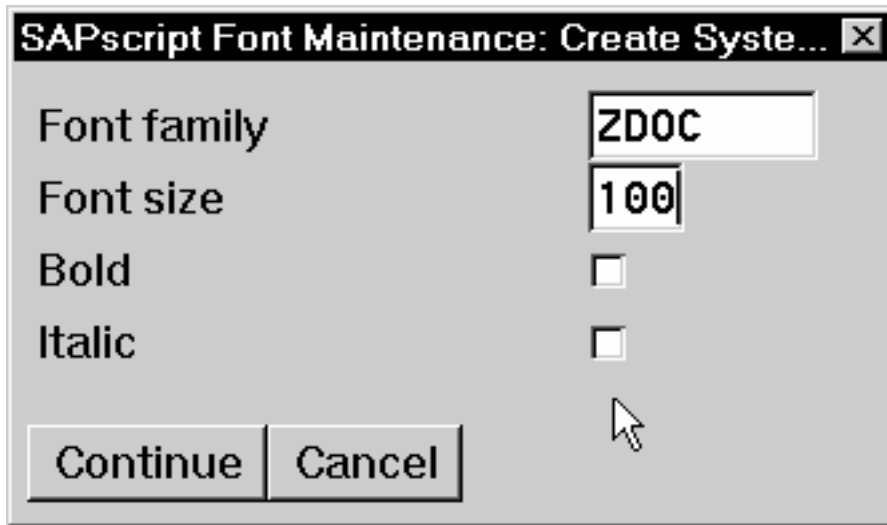

Figure 13. SAPScript Font Maintenance Create System... window
7. Fill in the information from the Create System... window as shown in Figure 13 on page 109: